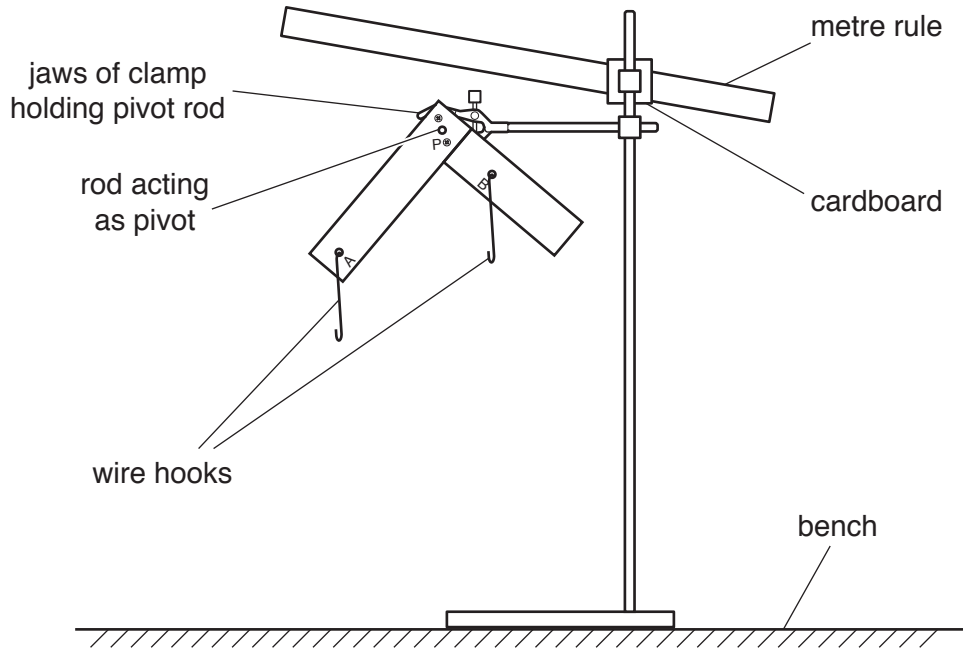

Fig. 2.2
2. The supervisor should set up the apparatus as shown in Fig. 2.2.
At the changeover the supervisor should ensure that the apparatus is returned to the arrangement shown in Fig. 2.2 with the ruler inclined at a 10° angle as described in note 2.